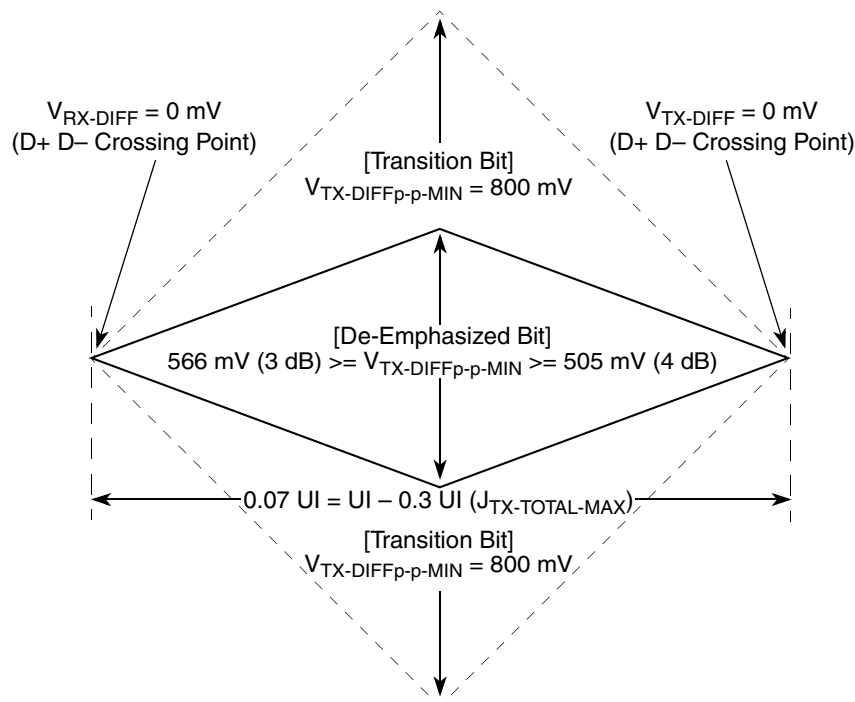
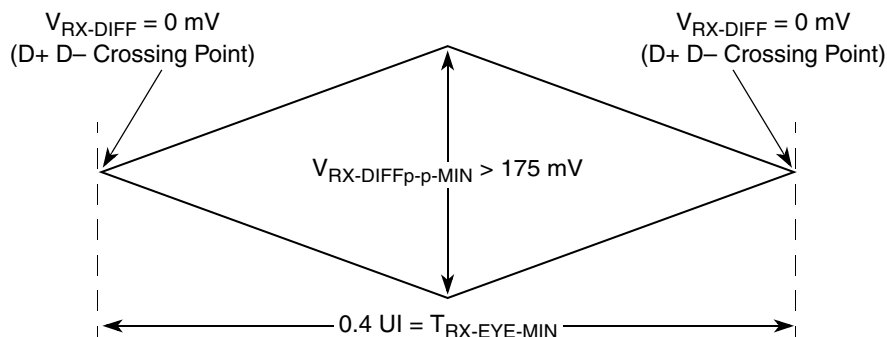
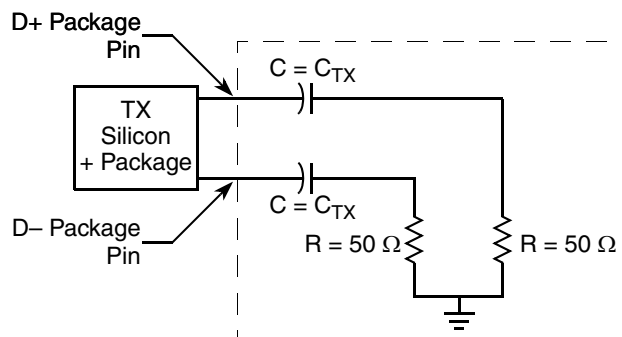

Figure 48. Minimum Transmitter Timing and Voltage Output Compliance Specifications
**Figure 49. Minimum Receiver Eye Timing and Voltage Compliance Specification**
**Figure 50. Compliance Test/Measurement Load**
2. Specified at the measurement point into a timing and voltage compliance test load as shown in Figure 50 and measured over any 250 consecutive TX UIs. (Also see the transmitter compliance eye diagram shown in Figure 48.)
4. The transmitter input impedance shall result in a differential return loss greater than or equal to 12 dB and a common mode return loss greater than or equal to 6 dB over a frequency range of 50 MHz to 1.25 GHz. This input impedance requirement applies to all valid input levels. The reference impedance for return loss measurements is 50  $\Omega$  to ground for both the D+ and D– line (that is, as measured by a vector network analyzer with 50- $\Omega$  probes—see Figure 50). Note that the series capacitors  $C_{\text{TX}}$  is optional for the return loss measurement.
5. Measured between 20%–80% at transmitter package pins into a test load as shown in Figure 50 for both  $V_{\text{TX-D+}}$  and  $V_{\text{TX-D-}}$ .
The TX eye diagram in Figure 48 is specified using the passive compliance/test measurement load (see Figure 50) in place of any real PCI Express interconnect +RX component.
2. Specified at the measurement point and measured over any 250 consecutive UIs. The test load in Figure 50 must be used as the RX device when taking measurements (also see the receiver compliance eye diagram shown in Figure 49). If the clocks to the RX and TX are not derived from the same reference clock, the TX UI recovered from 3500 consecutive UI must be used as a reference for the eye diagram.
4. The receiver input impedance shall result in a differential return loss greater than or equal to 15 dB with the D+ line biased to 300 mV and the D– line biased to –300 mV and a common mode return loss greater than or equal to 6 dB (no bias required) over a frequency range of 50 MHz to 1.25 GHz. This input impedance requirement applies to all valid input levels. The reference impedance for return loss measurements for is 50  $\Omega$  to ground for both the D+ and D– line (that is, as measured by a vector network analyzer with 50- $\Omega$  probes—see Figure 50). Note: that the series capacitors CTX is optional for the return loss measurement.
The RX eye diagram in Figure 49 is specified using the passive compliance/test measurement load (see Figure 50) in place of any real PCI Express RX component.
Note: In general, the minimum receiver eye diagram measured with the compliance/test measurement load (see Figure 50) is larger than the minimum receiver eye diagram measured over a range of systems at the input receiver of any real PCI Express component. The degraded eye diagram at the input receiver is due to traces internal to the package as well as silicon parasitic characteristics which cause the real PCI Express component to vary in impedance from the compliance/test measurement load. The input receiver eye diagram is implementation specific and is not specified. RX component designer must provide additional margin to adequately compensate for the degraded minimum receiver eye diagram (shown in Figure 49) expected at the input receiver based on some adequate combination of system simulations and the return loss measured looking into the RX package and silicon. The RX eye diagram must be aligned in time using the jitter median to locate the center of the eye diagram.
The reference impedance for return loss measurements is 50. to ground for both the D+ and D– line (that is, as measured by a vector network analyzer with 50-Ω probes—see Figure 50). Note that the series capacitors, CTX, are optional for the return loss measurement.
The AC timing and voltage parameters must be verified at the measurement point, as specified within 0.2 inches of the package pins, into a test/measurement load shown in Figure 50.